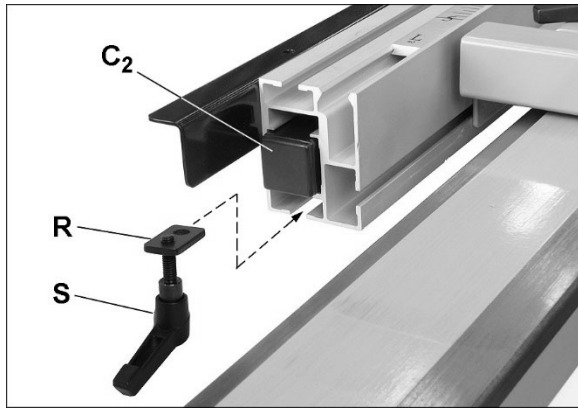

Figure 7-22
5. Insert T-nut with locking handle (R/S, Figure 7-22) into bottom channel of angle adjusting rail. Tighten locking handle to secure push bar (C_2).